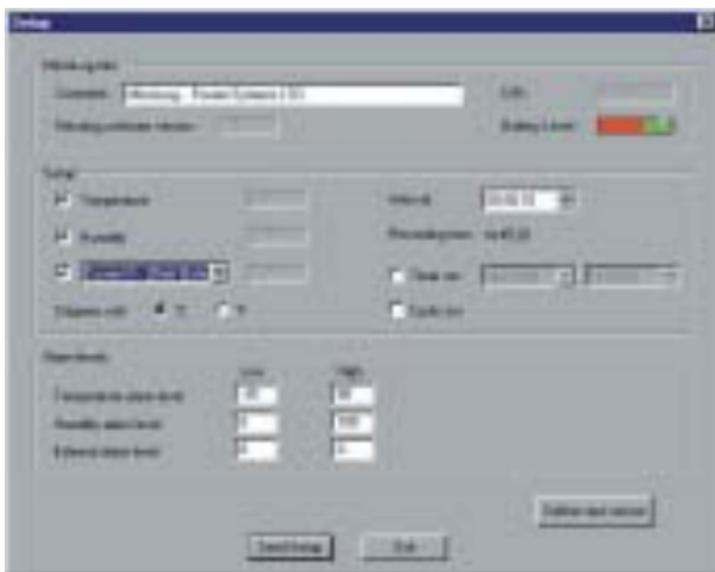

fig. 2
4. Activate the MicroLog external sensor by marking the external sensor check box (fig. 2).